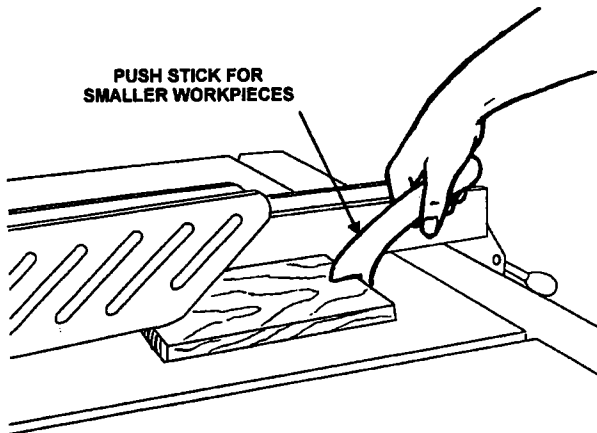

FIGURE 13
- f. Applying feed force when ripping to the cutoff (free) section of the work piece instead of the section between the saw blade and fence. Use push sticks or push blocks, Figure 13, for narrow, thin, or short work.